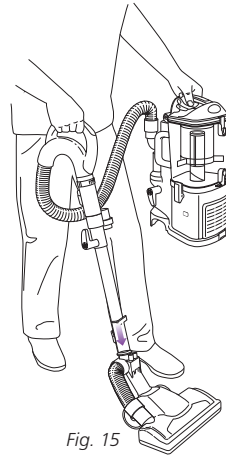

Fig. 15
- 2 Attach either floor nozzle onto the end of the extension wand. (Fig. 15)